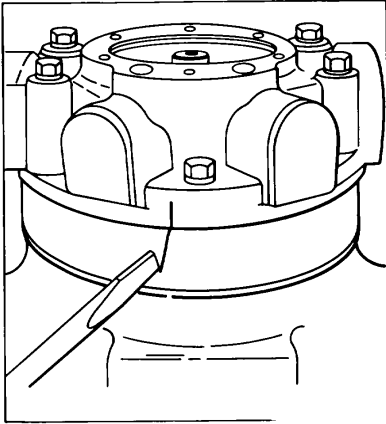

Figure 111.
5. Mark the housing (8) and cover (9) to insure proper orientation upon reassembly. A scratch in the paint across the housing/cover parting line may be used. See Fig. 111.